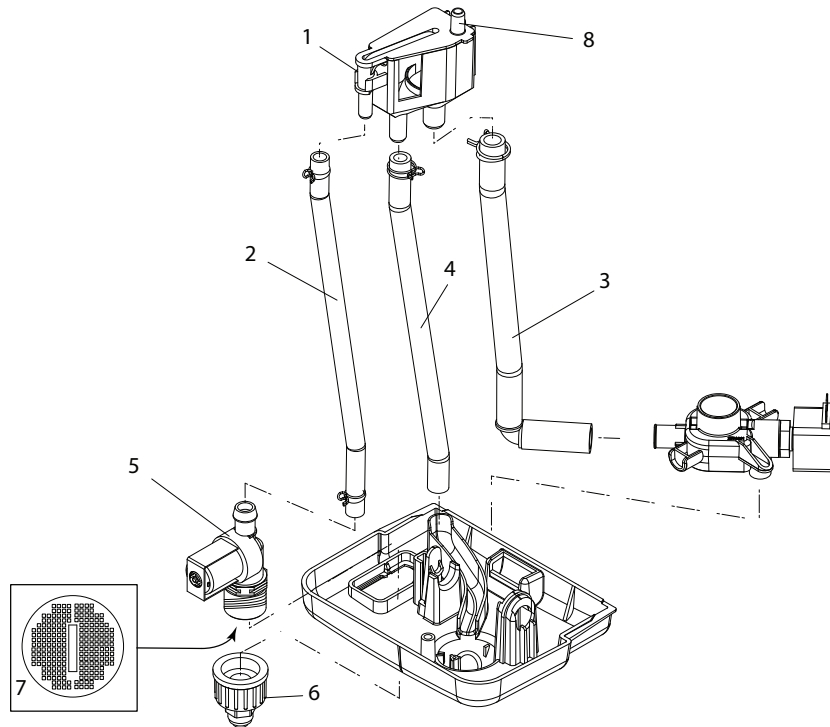

Figure 11 - Internal Plumbing Components
1. (Recommended) Remove hoses and clamps from the fill cup. Refer to Figure 11 - on the previous page.